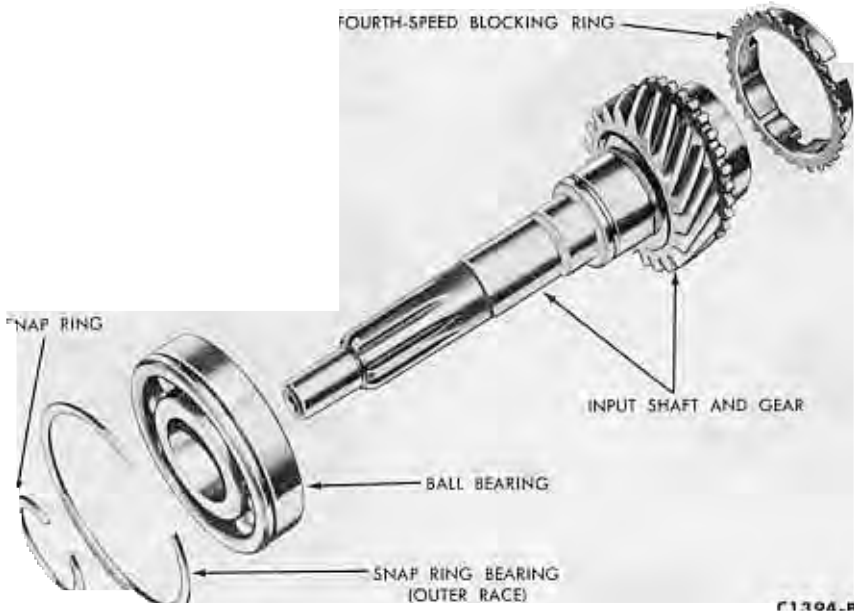

FIG. 7—Input Gear and Bearing—Disassembled
9. Remove the input gear and bearing (Fig. 7) from the front of the case.